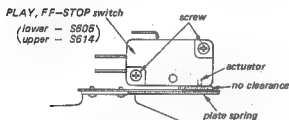

Fig. 3-6. PLAY, FF-STOP switch (S605, 614) position adjustment
1. Place the unit in the FF or REW mode, to energize the brake solenoid. Check to see that the actuator of microswitch is perfectly pushed with the plate spring and also that the no clearance between the microswitch and the plate spring is obtained as shown in Fig. 3-6. If necessary, adjust the position of the micro-switch by loosening the two switch holding screws.